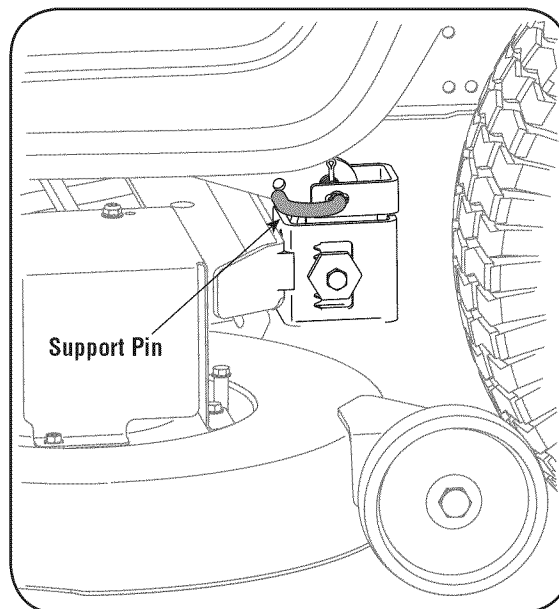

Figure 6-4
5. Looking at the cutting deck from the left side of the tractor, locate the deck support pin on the rear left side of the deck. See Fig. 6-4.